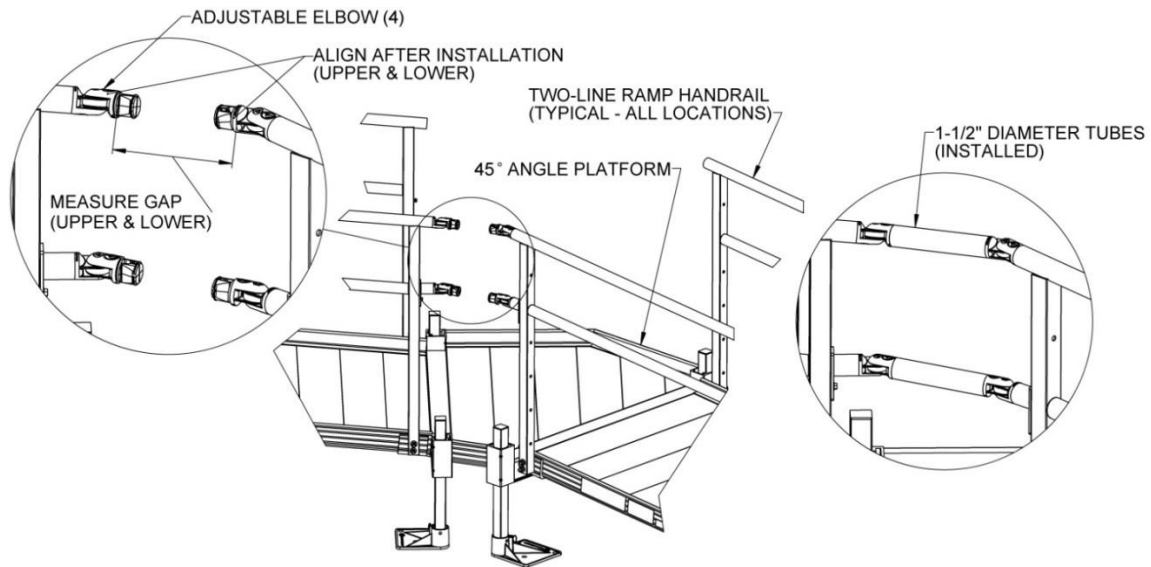

FIG. 4.16
- 4.8.4. Insert adjustable elbows into both the ramp handrails and the Bolt-On Stub Rails (FIG. 4.16).
- 4.8.5. Loosen the elbow assembly screws and position the adjustable elbows so they are aligned with the adjustable elbows on the opposite side (but do not tighten), then measure the distance between the two larger round faces. Measure both upper and lower gaps because they could be different and cut tubes accordingly (FIG 4.16).